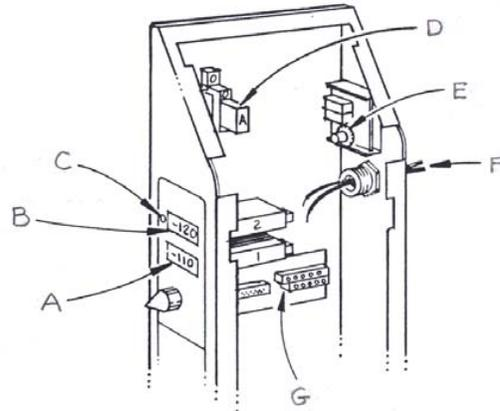

Figure 9-10: Temperature module options—parts identification for option 600212-03
- B. Option 600212-03: Second temperature meter & setpoint indication, see Figure 9-10.